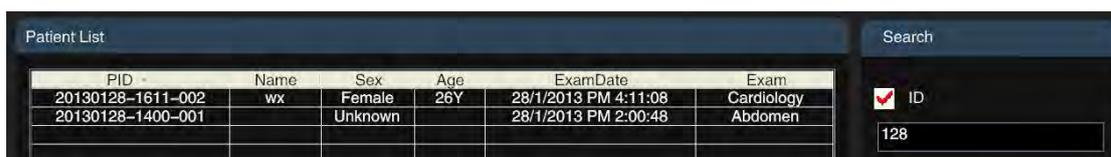

Fig. 9-14 Retrieving patient information
- b) The user can use the retrieval bar on the right side of the **Smarchive**. Items able to be retrieved include ID, name, age group and exam time. You can use individual retrieval or general retrieval with multiple items (more keywords and a smaller range can help find the target more quickly). Move the cursor to the small box in front of the item needing to be retrieved, and press **Set** to mark the box with a “√”. Then enter the relevant information and move the cursor onto **Search** and press **Set** to search in the patient database. The aforementioned fuzzy search helps users to quickly find matching patients or to narrow the range of matching patients, as shown in Fig. 9-14.